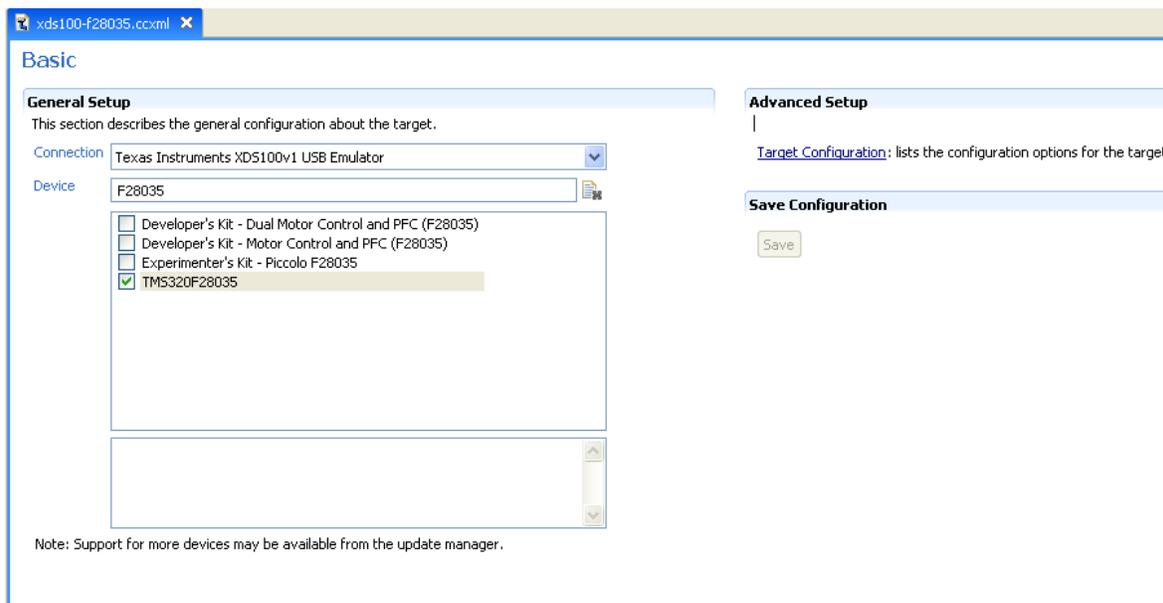

Figure 6 Configuring a new target
6. This should open up a new tab as seen in Figure 6. Select and enter the options as shown: